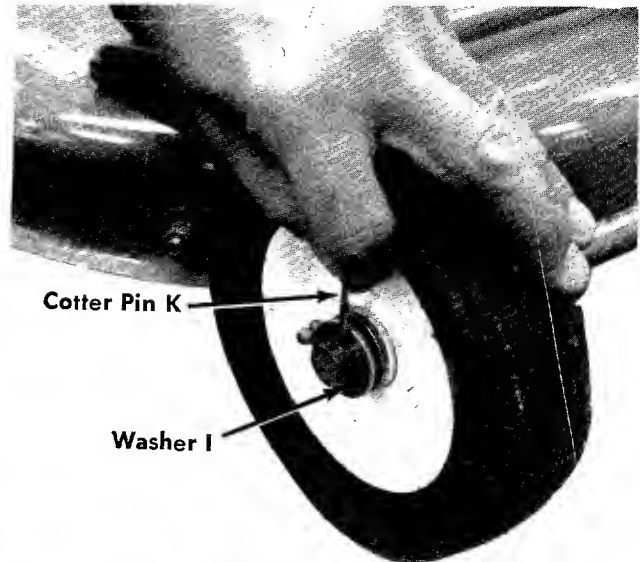

FIGURE 10. DECK WHEEL ASSEMBLY
- Step 1. Place the deck wheel over the deck axle and secure it with washer "I" and cotter pin "K". See figure 10.